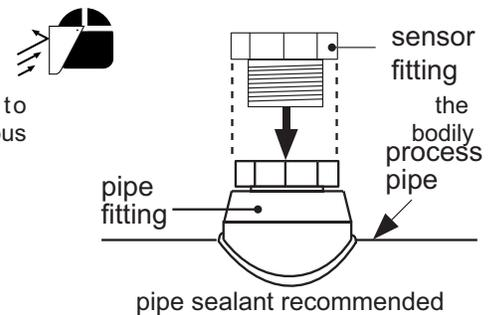

Fig. 1
E. Thread sensor fitting into pipe fitting. (Fig. 1)